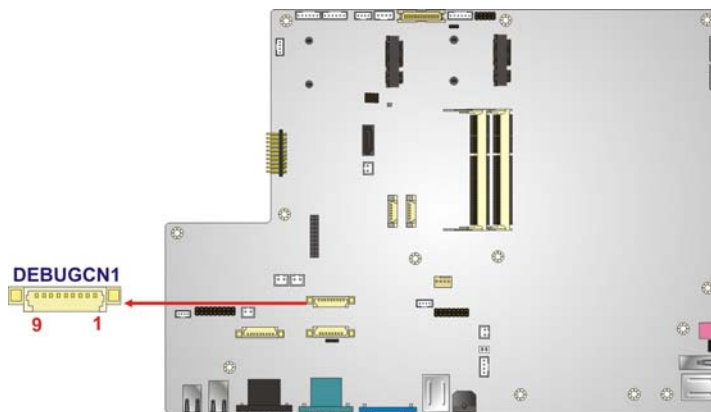

Figure 5-9: Debug Port Connector Location
- CN Location: See **Figure 5-9**